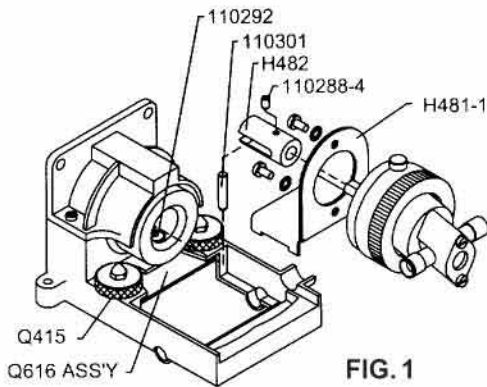

FIG. 1
**6. ADAPTING RH PUMP HEADS TO STANDARD Q PUMP DRIVE MODULES.** (refer to figs. 1,7c) The RH/Q Kit adapts the RH pump heads to standard Q Pump Drive Modules. Assemble as follows:
a) Assemble Kit parts to RH pump head as shown (fig. 1) with "shoe" of part H481-1 down. Slip COUPLING H482 fully onto pump shaft, with its slot away from pump head and SET SCREW 110288-4 contacting the flat on the pump shaft.